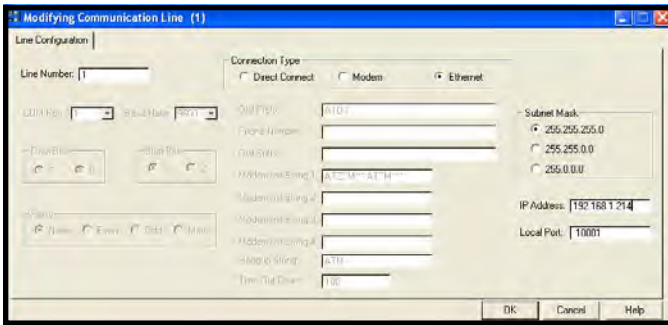

Figure 17. Out-of-the-Box™, Adding New Communication Line window
- The “Adding New Communication Line” window will open. The following fields will have to be configured for Ethernet use (see Figure 17):